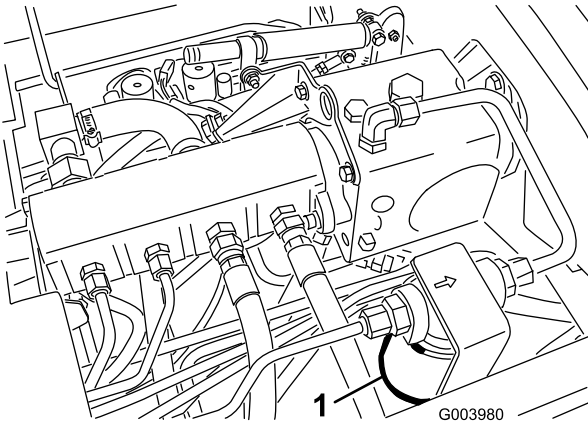
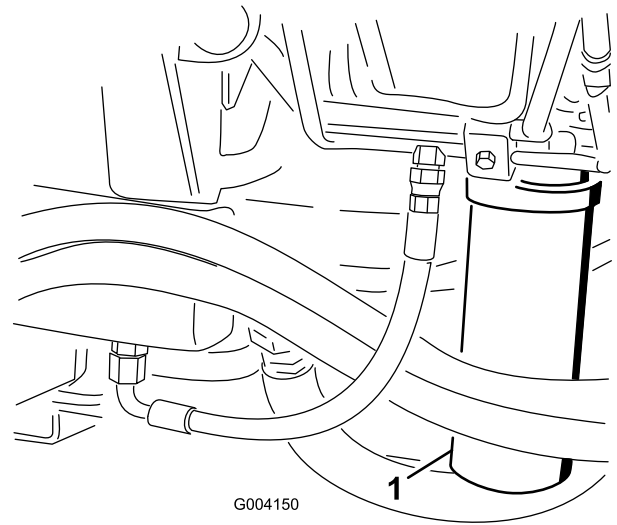

Figure 79
Figure 80
2. Clean the area around the filter mounting area and place a drain pan under filter (Figure 79) and (Figure 80).